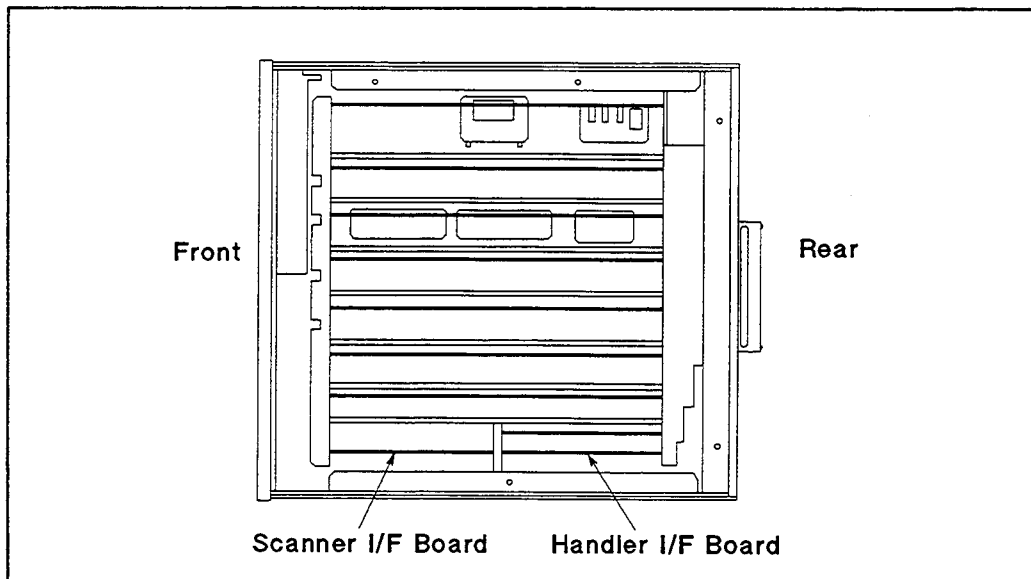

Figure 6-9. Interface Board Location
6. Disconnect the flat cable connected to the handler interface board. The handler interface board is the one with the **ORANGE** and **BLACK**, or **ORANGE** and **RED** extractors (See Figure 6-9).
2. Disconnect the flat cable connected to the handler interface board. The handler interface board is the one with the **ORANGE** and **BROWN**, or **ORANGE** and **ORANGE** extractors (See Figure 6-9).
2. Disconnect the flat cable connected to the scanner interface board. The scanner interface board is the one with the **YELLOW** and **BLACK** extractors (See Figure 6-9).